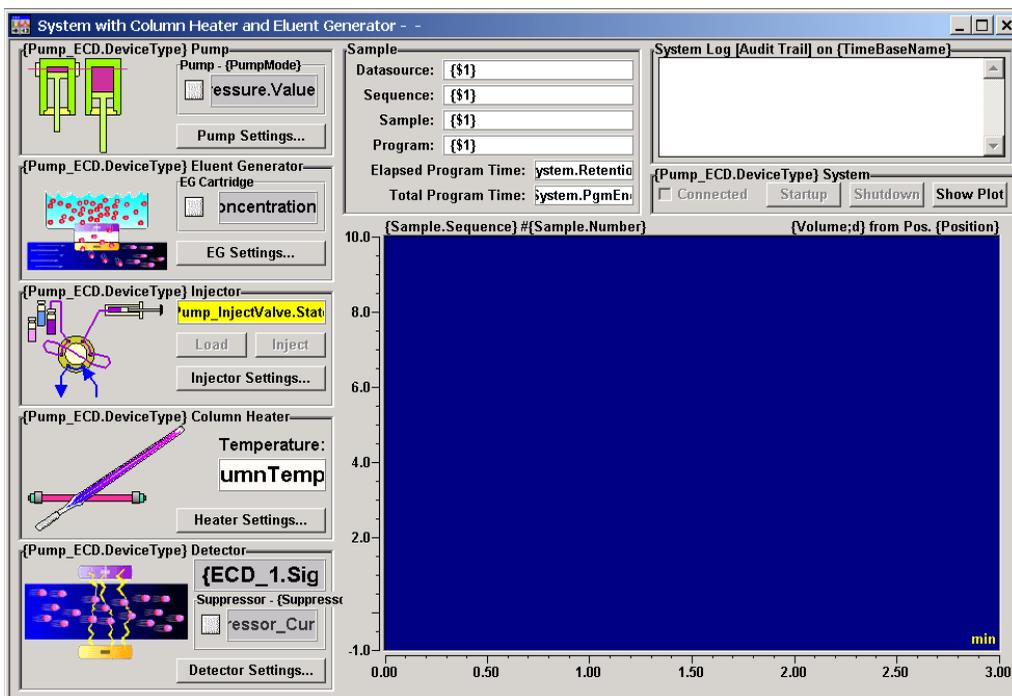

Figure 3-5. ICS-2000 System Control Panel (Unconnected)
5. The Control Panel opens, unconnected (see Figure 3-5). To connect to the timebase, open the **Control** menu and click the name of the ICS-2000 timebase from the list at the bottom of the menu.